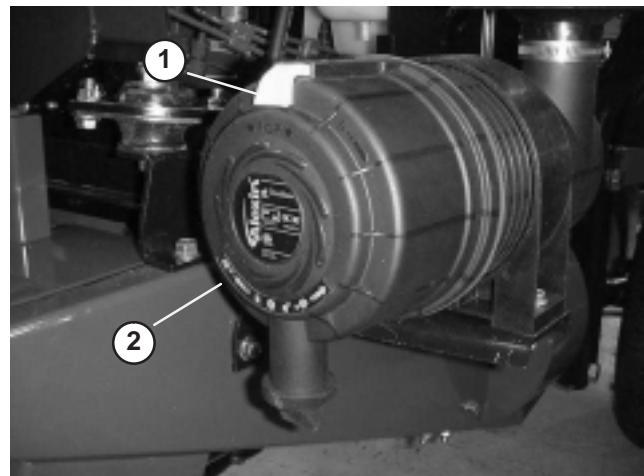

Figure 42
1. Pull latch outward and rotate air cleaner cover counter-clockwise. Remove cover from body (Fig. 42). Clean inside of air cleaner cover.